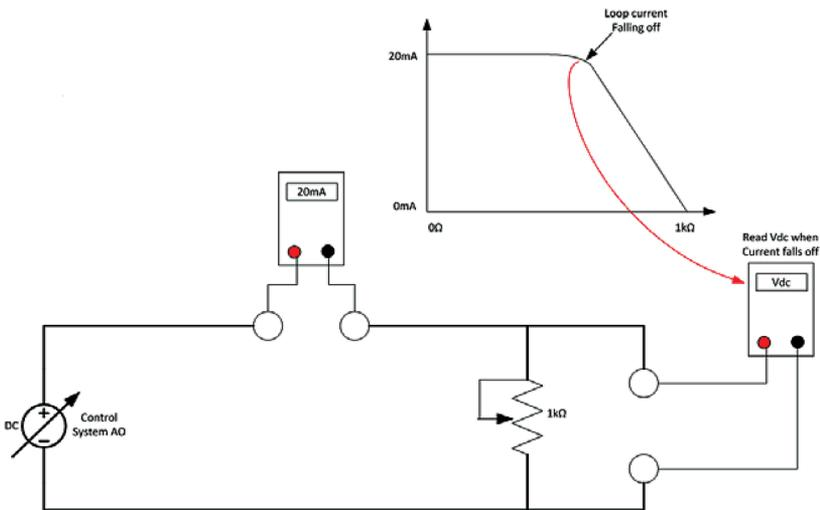

Figure 37 - Compliance Voltage Test Set-Up
1. Configure a test set-up as in Figure 37.